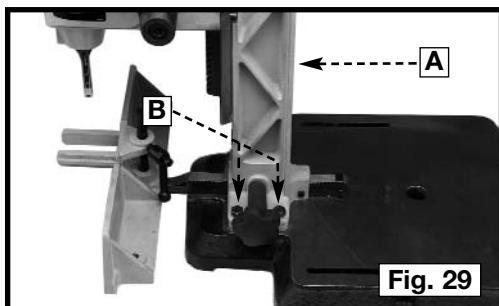

Fig. 29
The column (A) Fig. 29 can be rotated 180 degrees for special cuts off of the table. To rotate the column, remove four screws, two of which are shown at (B), rotate the column (A) 180 degrees, and replace the four screws (B).